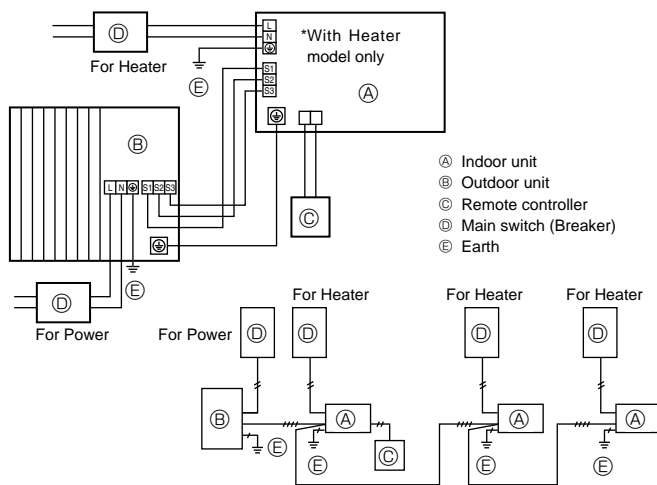
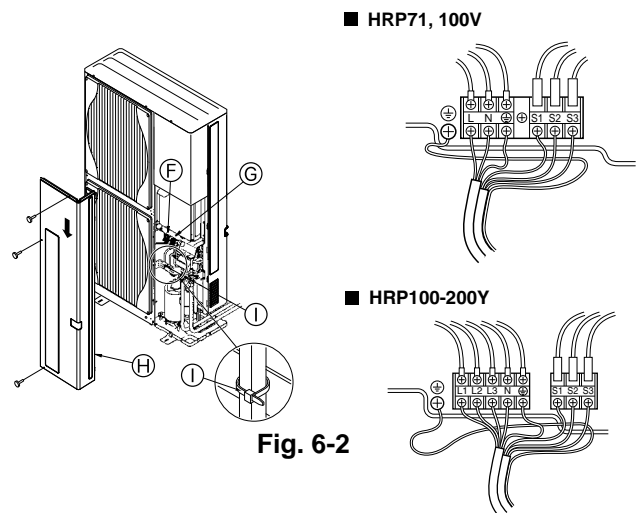

Fig. 6-1
Fig. 6-2
6.1. Outdoor unit (Fig. 6-1, Fig. 6-2)
- Wire the cables referring to the Fig. 6-1 and the Fig. 6-2.